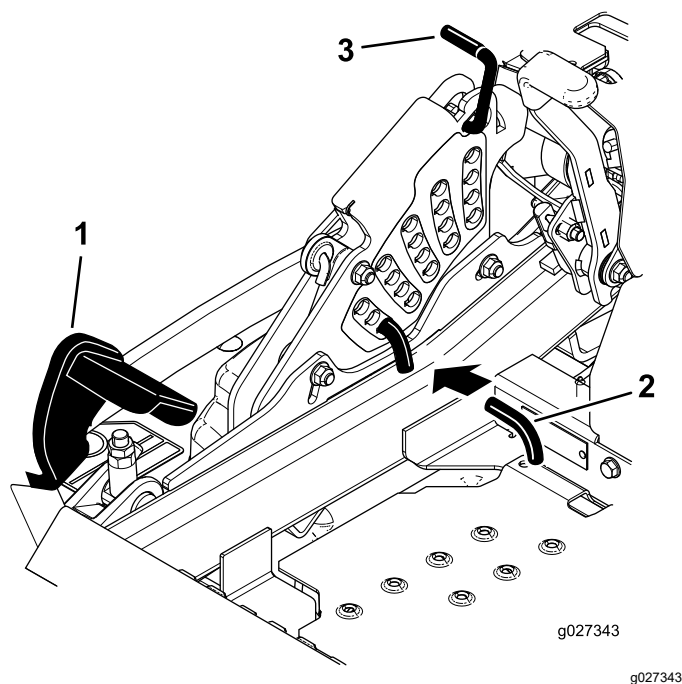

Figure 102
4. Push the deck-lift pedal all the way forward and the deck latches at the 140 mm (5-1/2 inches) transport position (Figure 102).